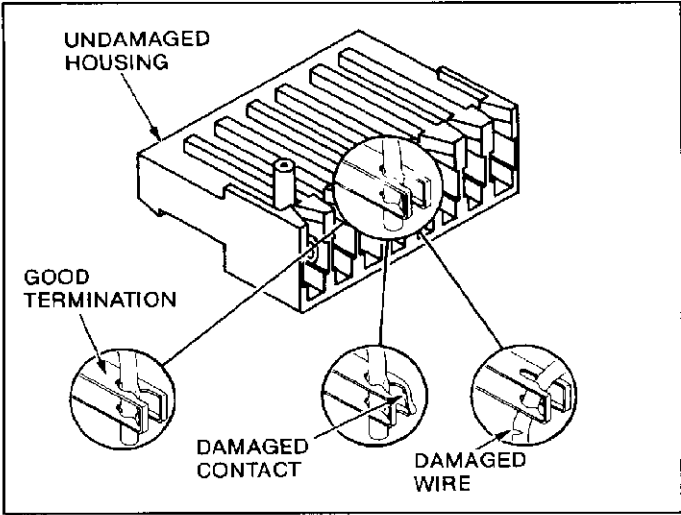

Fig. 5
1. Inspect housing and contacts for physical damage. See Figure 5.